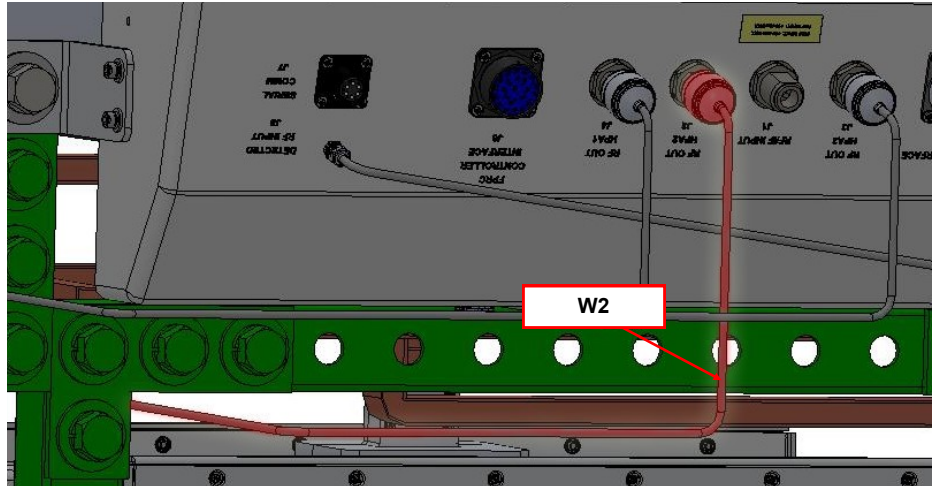

Figure 4-19: Connect W2 to Signal Box Port J2 (HPA2)
4. Locate the coaxial cables labeled W2 and W8. Connect the N-type connector of W2 to Port J2 (HPA2) of the signal box. This cable will run between the uni-strut frame and the top of HPA2. See **Figure 4-19**, Connect the SMA connector of W2 to the SMA connector of W8. Connect the N-type connector of W8 to the RF Input Port J1 of HPA2.